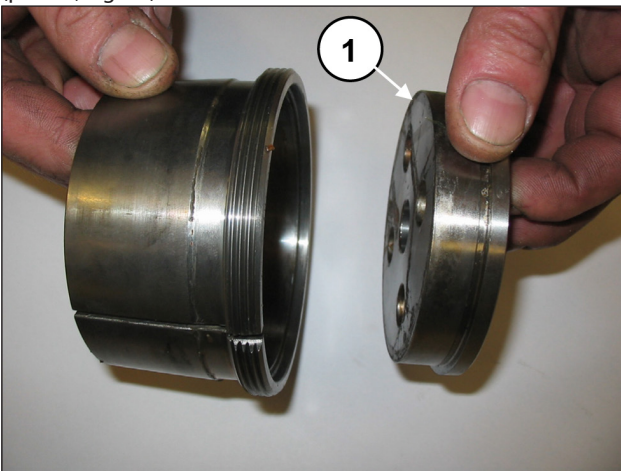

Fig. 22
Separate the bush locking flange from the pressure bush (pos. ①, Fig. 22).